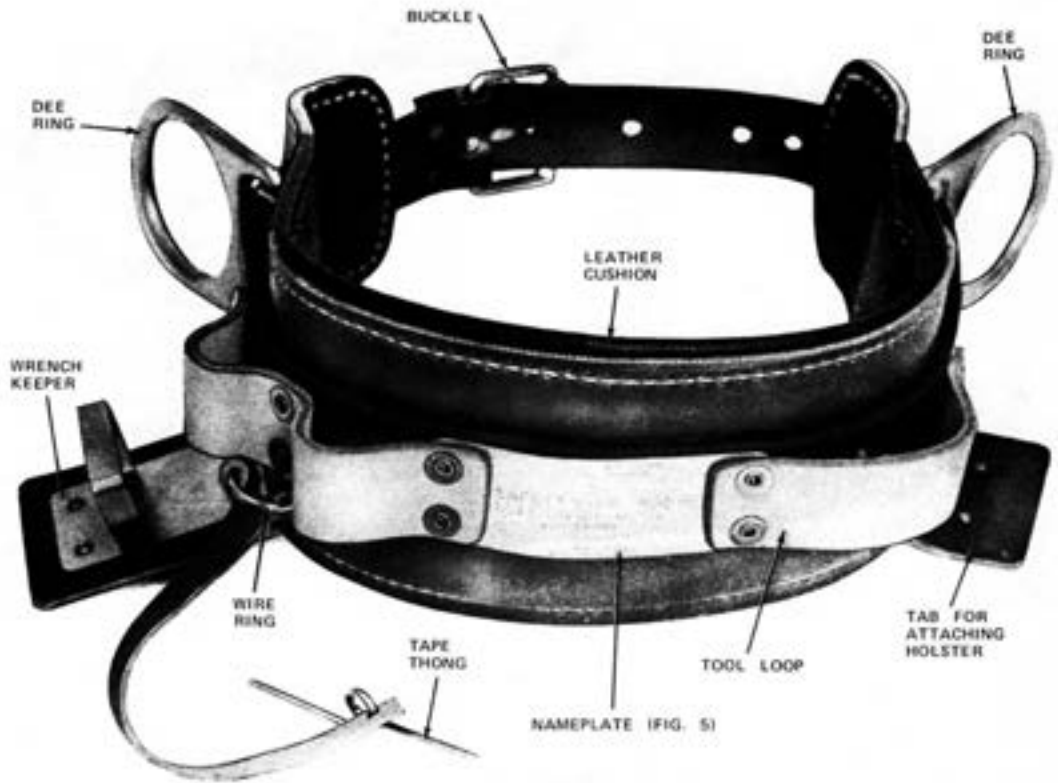

Fig. 1—D Body Belt (Right Belt Shown)
2.01 The D and E body belts have all strength members made of six-ply neoprene-impregnated nylon fabric and are equipped with a leather or leather-substitute cushion, a buckle, Dee rings (for attachment of a safety strap), tape thong, wrench keeper, loops to accommodate tools, and provisions for attaching a holster. The D body belt is illustrated in Fig. 1. The E body belt is identical to the D body belt except it is equipped with four wire rings for use with suspenders or a waist belt.
2.02 These belts are available as a "left" or "right" belt in the sizes, dimensions, and weights listed in Table A. The "right" belt is shown in Fig. 1; for a "left" belt, the position of the buckle, wrench keeper, and tape thong are reversed.